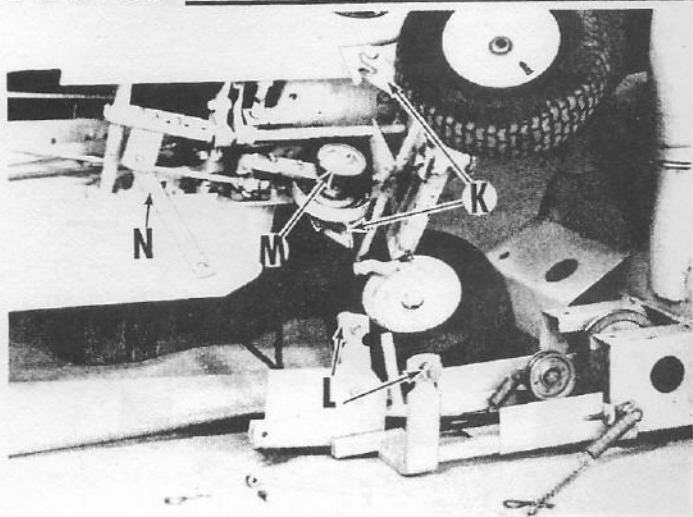

Fig. 17
Move tractor forward over mounting bracket until tractor attachment couplers (K) are in alignment with Snow Thrower mounting bolts (L). Raise mounting bracket upward and thread V-belt over tractor jackshaft pulley (M) (Fig. 17). Then raise mounting bracket into mounting couplers (K) and snap coupler hooks shut. Secure both couplers with hair cotter pins.